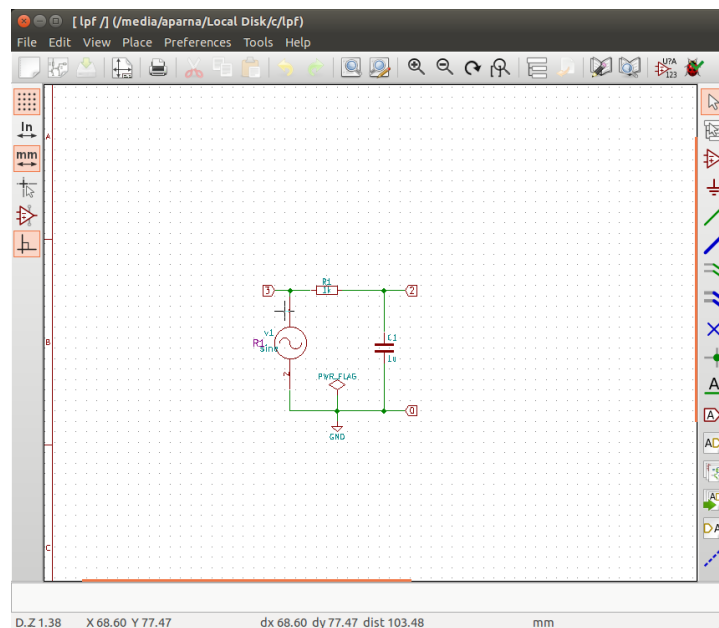

Figure 10.1: Circuit schematic: Low pass filter
1. Open the schematic and create the circuit as shown in Fig. 10.1.